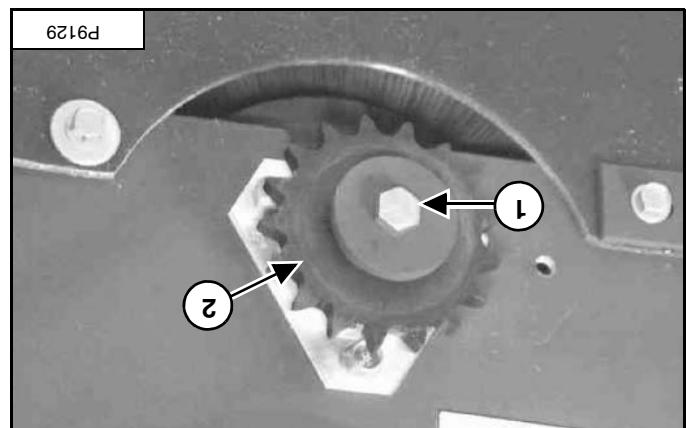

Figure 122
Remove the sprocket (item 2) [Figure 122]. Remove the bolt (item 1) [Figure 122] and washer from the end of the broom shaft.